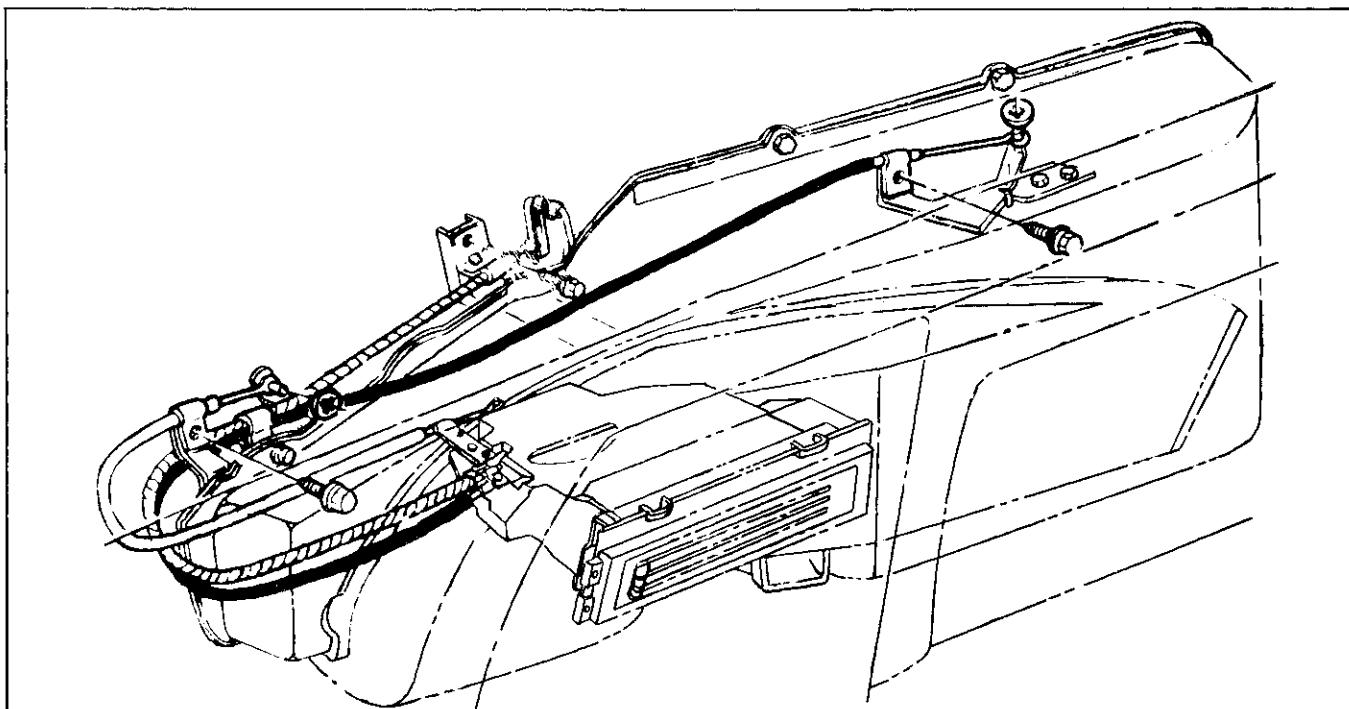

Fig. 1-3 Control Panel Cables Attached—Firebird
1. Remove instrument panel trim plate (Fig. 1-3).
1. Remove glove compartment (Fig. 1-3).
2. Disconnect cable at heater case (Fig. 1-3).
1. Disconnect cable from pivot on heater case (Fig. 1-3).